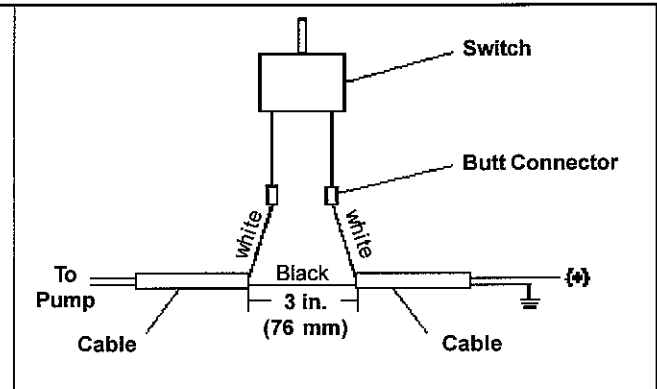

Figure 1
4. Install electric controls (figure 1).